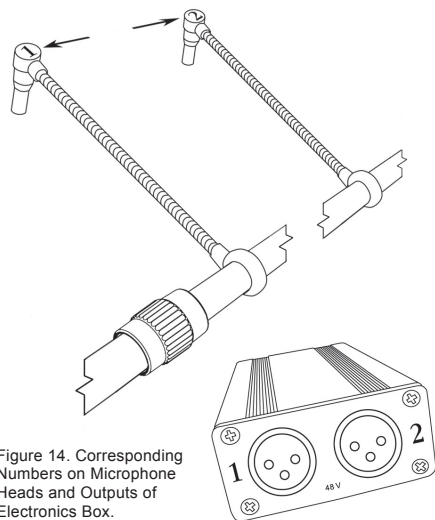

Figure 14. Corresponding Numbers on Microphone Heads and Outputs of Electronics Box.
12. Notice in Figure 14 that the top of each microphone head has a number. These numbers correspond to the numbers on the rear of the electronics box. Depending upon how the PianoMic™ is placed in the piano the high strings will be indicated by either the number 1 or number 2. Once the PianoMic™ has been placed, identify the microphone numbers on the mic heads for both the high and low strings and remember that they correspond to the numbers on the rear of the